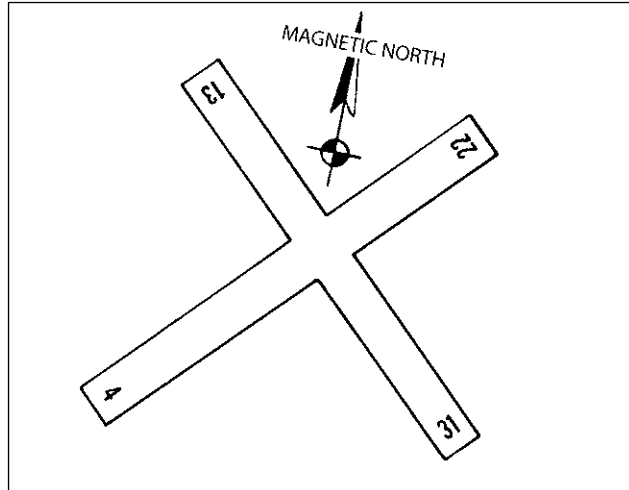

Figure 6-3. Runway numbering system.
Incidentally, hard-surfaced runways are numbered by their magnetic headings to the nearest 10°. Runway 22 means that the plane’s magnetic heading on this runway will be about 220° when taking off or landing. The actual heading may be 224°, but it is called 22. If the actual heading was 226°, then the runway would be 23, or considered to be 230°. The opposite direction on the same runway (22) would be called 4 (40°). (See Figure 6-3.) These numbers are painted on the runways. This